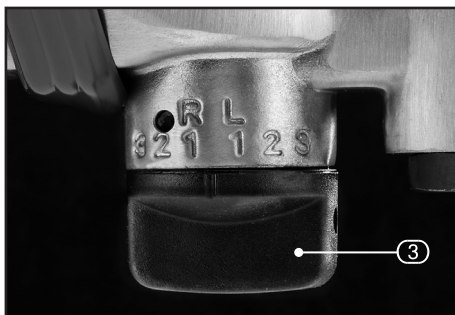

FIG.7
9.2 FORWARD/REVERSE SPEED SELECTION – FIGS. 7 – 8
- The impact wrench has 3 forward speeds and three reverse speeds. Turn the combined directional speed switch ③ to engage the speed and direction appropriate for the task in hand.